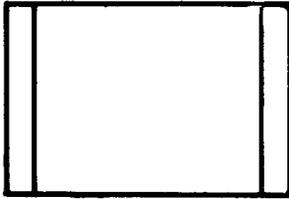

Fig. 13—Predefined Process Symbol
2.13 *The predefined process symbol* (Fig. 13) represents a named process consisting of one or more operations or program steps that are specified elsewhere; for example, subroutine or logical unit. (Elsewhere means not this set of flowcharts.)